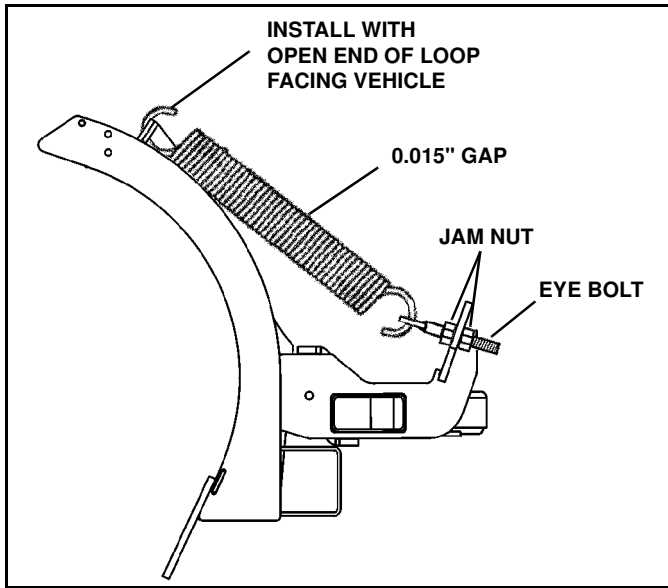

Figure 1-7
- a. **26 SERIES BLADE:** Remove the springs from the power pack carton. Hook springs onto blade with open end of loop facing up. (See Figure 1-7).
- b. Install a nut on the eye bolt until fully seated and hook the bolt onto the free end of the spring. Insert the eyebolt on each side of the blade into the outside hole on the swing frame spring bracket. Loosely install a second nut on the eye bolt. (See Figure 1-7).